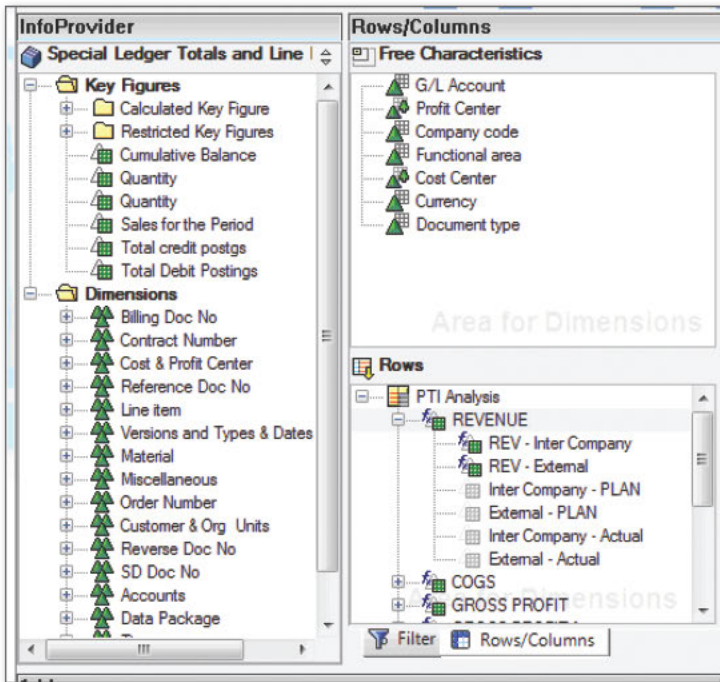

Figure 1 BEx Query Designer Showing Revenue Key Figures under Revenue
4. Drag all of the different types of revenue key figures created in the earlier step to the REVENUE key figure as shown in Figure 1. These key figures will now show up under the TOTAL REVENUE KEY figure. Using this method, you can group the revenues in different ways depending on your reporting requirement and then place them under REVENUE.